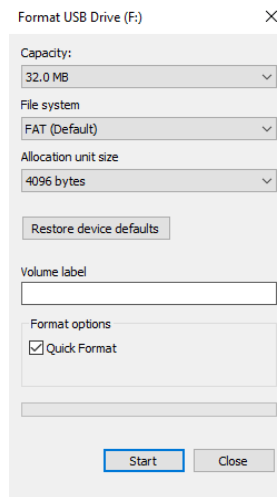

fig 4.1
2. Select format from the list and make the two adjustments to the settings as described above. Select FAT file system and select 4096 byte allocation units. See fig 4.1 below